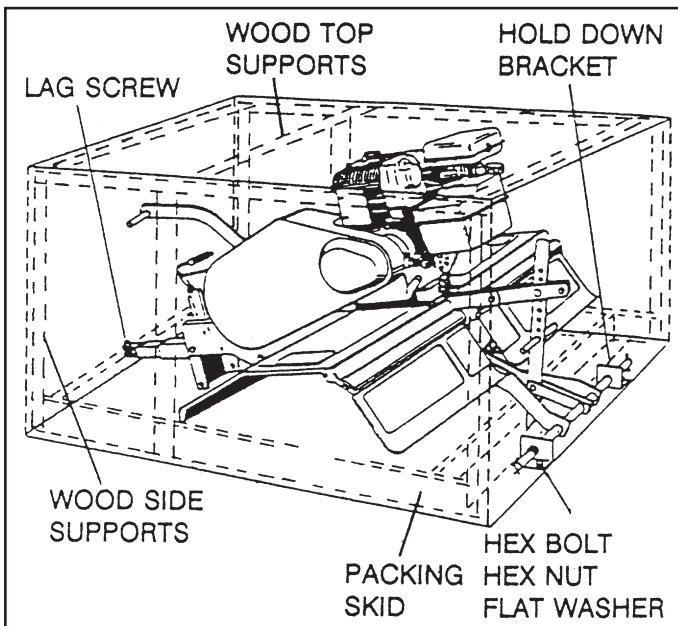

FIGURE 1
- Cut all four corners of the carton from top to bottom and lay panels flat. See figure 1.